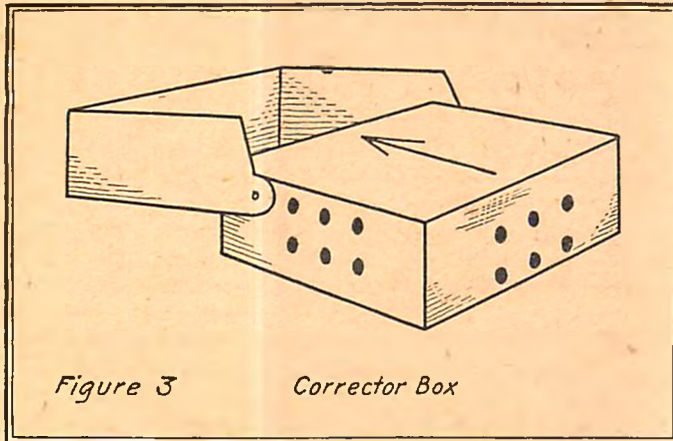

Figure 3 Corrector Box
**How to Correct.** Underneath all compasses are corrector-boxes. They vary in shape and design but the principle of them all is the same. Figures 3 and 4 give different views of a corrector-box, and into the holes shown are inserted the little corrector magnets.